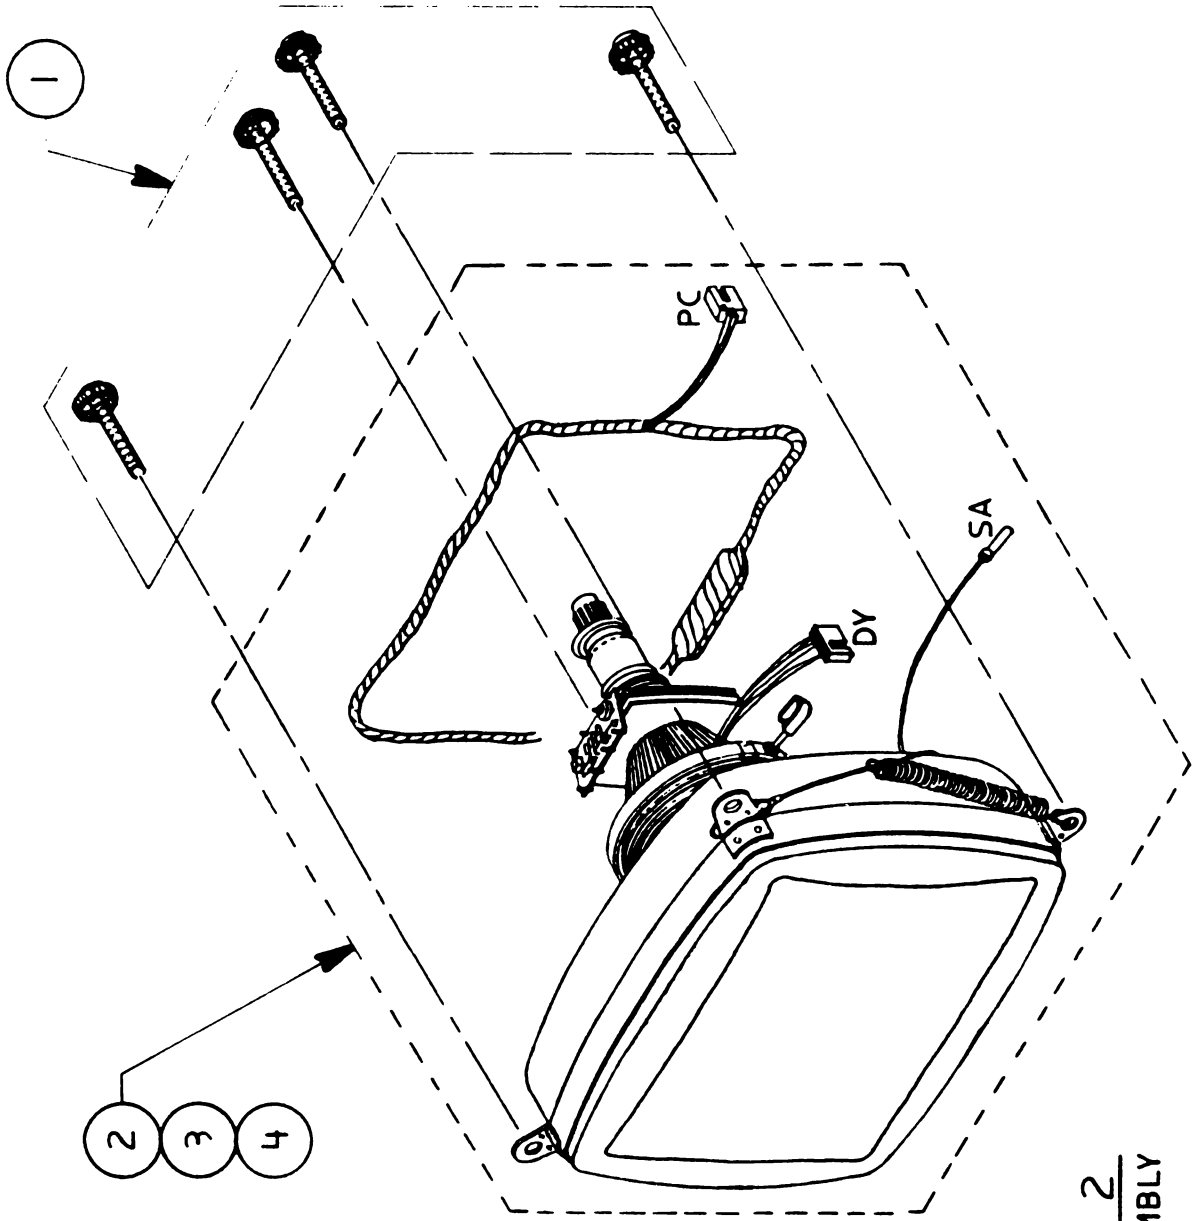

FIGURE 2
- 5.5 CRT (Figure 2)
□ RGB MONITOR – CRT (Figure 2)